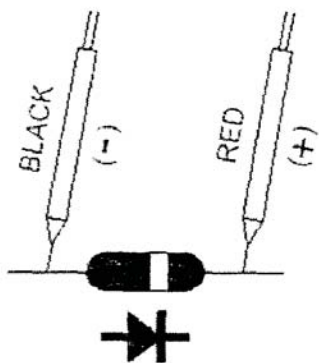

Fig. 3
- b. When connected as shown in Fig. 3, a reverse check on the diode is made. If the diode under test is good, ".OL " will be displayed. If the diode under test is defective, ".000 " or other numbers will be displayed. Proper diode testing should include both steps a. and b. above.